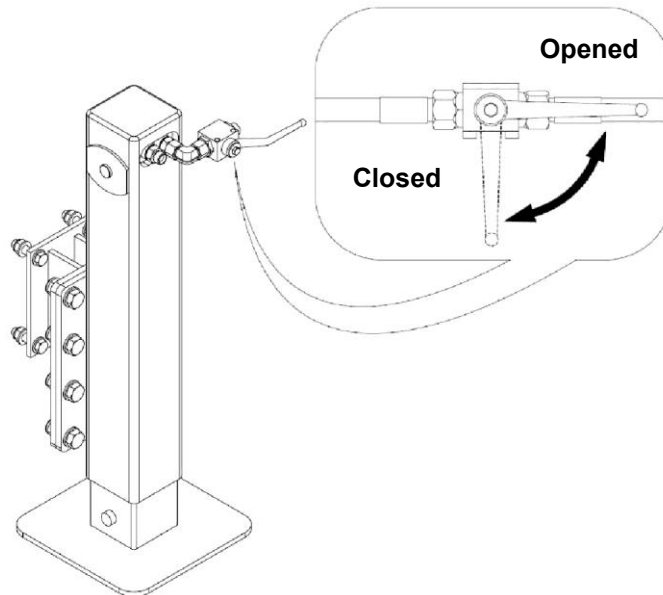

Figure 37. Hydraulic valve to control (shut off) the hydraulic parking jack
- if the feeder wagon is equipped with a hydraulic parking jack (Figure 37), connect the hydraulic lines of the jack to the external hydraulic sockets of the tractor; open the hydraulic locking valve of the jack located next to the jack; use the distributor lever in the tractor to raise or lower the drawbar eye to a height which makes it possible to couple it to the tractor's hitch.